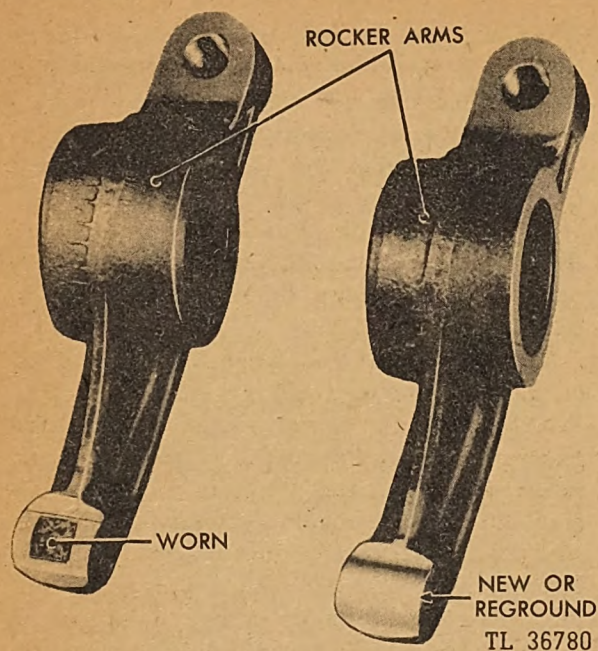

Fig. 128. Worn and Reground Rocker Arms
m. *Valve Rocker Arms.* Bushings in valve rocker arms are pressed in; oil holes are drilled after bushings are pressed in. Valve rocker arm bushings are broached to very close tolerances. When bushings have become worn, replace complete rocker arm. Rocker arms should be replaced when the clearance between the shaft and the arm exceeds .006 inch. Examine the rocker arm where it contacts the valve stem; if worn, either replace or regrind to the original contour. Figure 128 illustrates a worn rocker arm in comparison with a new rocker arm.